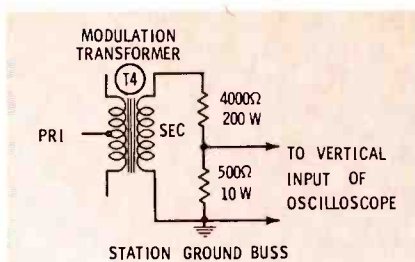

Fig. 4. Dummy load for modulator tests.
11. If RF is suspected of getting into audio stages, use dummy load on modulation transformer to isolate audio section. Completely disconnect secondary of T4. Across entire secondary, connect 4000-ohm, 200-watt resistor in series with 500-ohm, 10-watt resistor, as shown in Fig. 4. Then connect vertical input of scope across 500-ohm resistor. Turn on transmitter and drive a 1000-cps sine wave through modulators. Scope should exhibit clean sine wave if modulators are in balance. If it does, you probably have RF trouble; if it doesn't, you probably have audio difficulties.